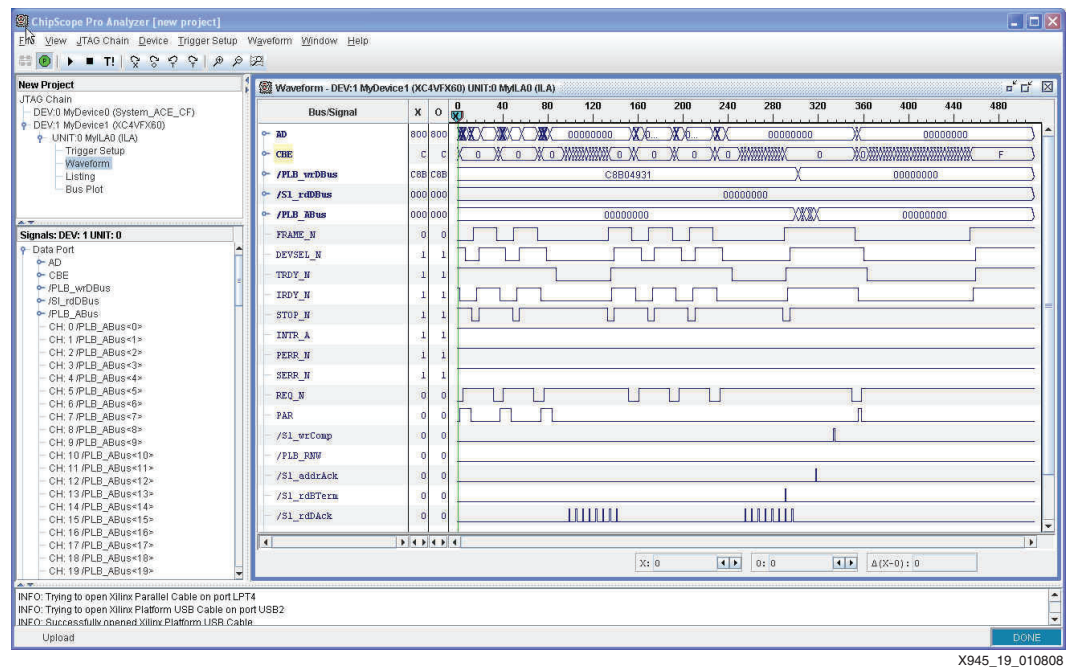

Figure 19: ChipScope Analyzer Results
13. The Chipscope Analyzer results are analyzed in the waveform window, as shown in Figure 19. This figure shows the bus signals generated in Step 10. To share the results with remote colleagues, save the results in the waveform window as a Value Change Dump (vcd) file. The vcd files can be translated and viewed in most simulators. The vcd2wlf translator in ModelSim reads a vcd file and generates a ModelSim waveform log file (wlf) file for viewing in the ModelSim waveform viewer. The vcd file can be opened in the Cadence Design System, Inc. Simvision design tool by selecting **File** → **Open Database**.